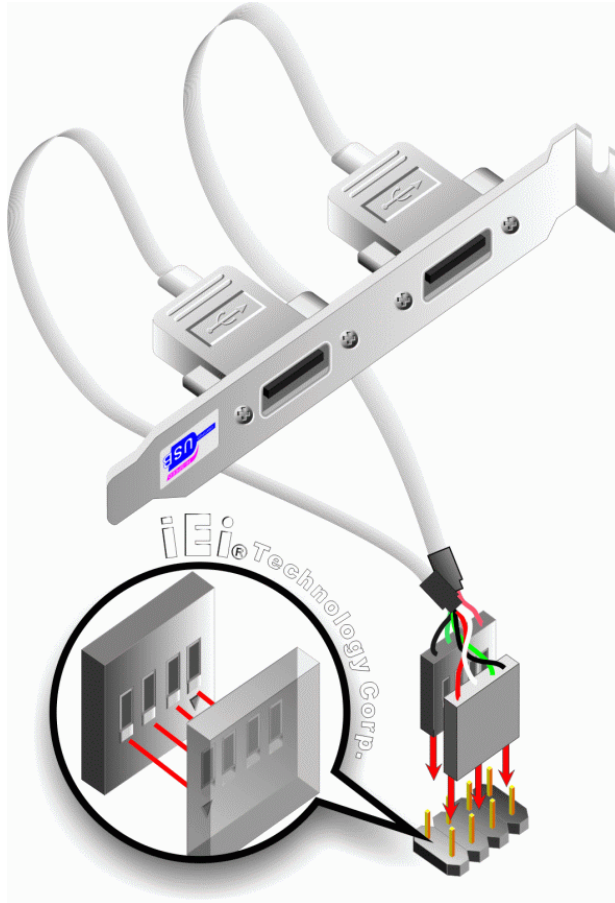

Figure 5-11: Dual USB Cable Connection
Step 3: **Insert the cable connectors.** Once the cable connectors are properly aligned with the USB connectors on the WSB-945GSE, connect the cable connectors to the on-board connectors. See Figure 5-11.